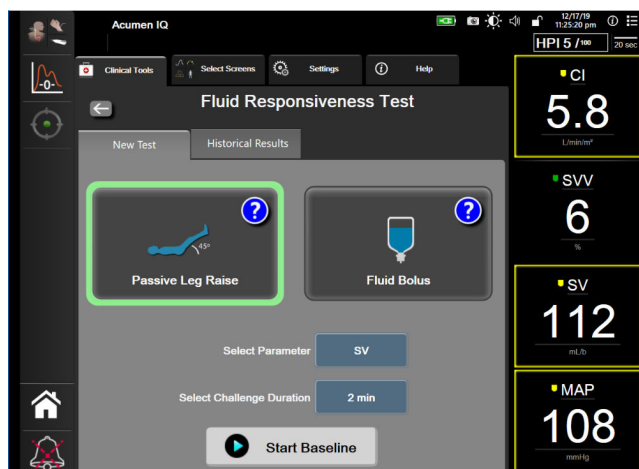

Figure 14-13: Fluid Responsiveness Test – New Test Screen
- On the **New Test** tab (see Figure 14-13 on page 275), touch the desired test type: **Passive Leg Raise** or **Fluid Bolus**.